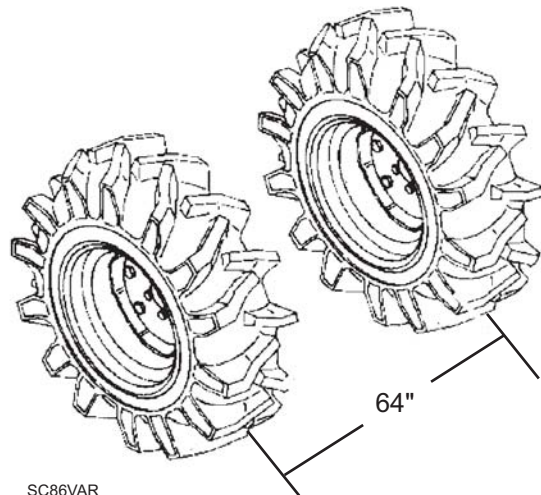

Figure 1. Tire Adjustment (FWA Models)
4. Set front tire width to approximately 64". See Figure 1.